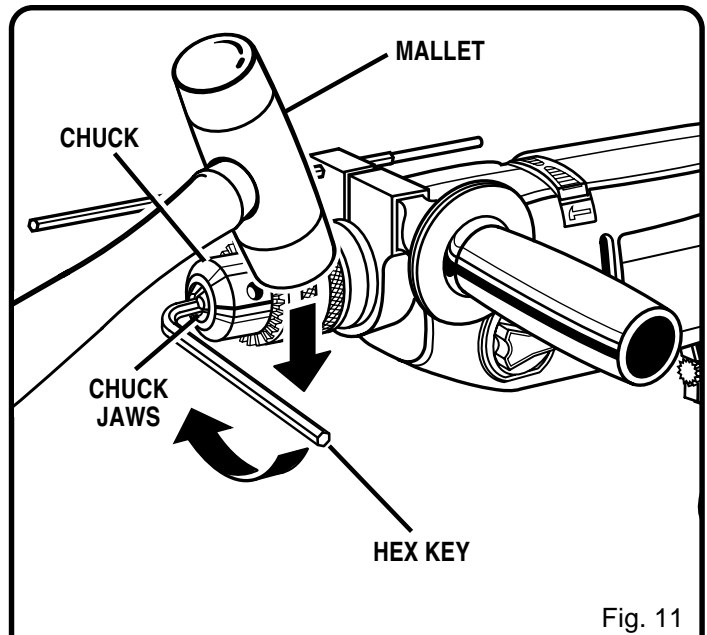

Fig. 11
See Figures 11, 12, and 13.
- Tap the hex key sharply with a mallet in a clockwise direction. See Figure 11. This will loosen the chuck screw for removal.
- Insert hex key into chuck and tighten chuck jaws securely. Tap hex key sharply with a mallet in a clockwise direction. This will tighten the chuck on the spindle. See Figure 11.